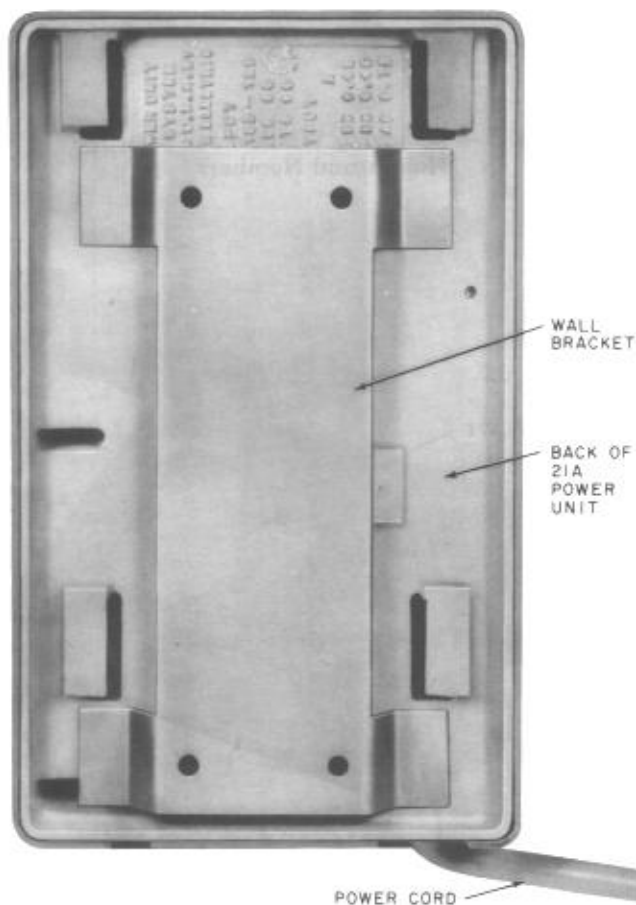

Fig. 5 — Rear of 21A Power Unit
3.02 A bracket is supplied with the 21A power unit for wall mounting. The unit must be mounted in a vertical position (power cord down). *Try the bracket on the power unit, before mounting, to determine the top of bracket Fig. 5.*